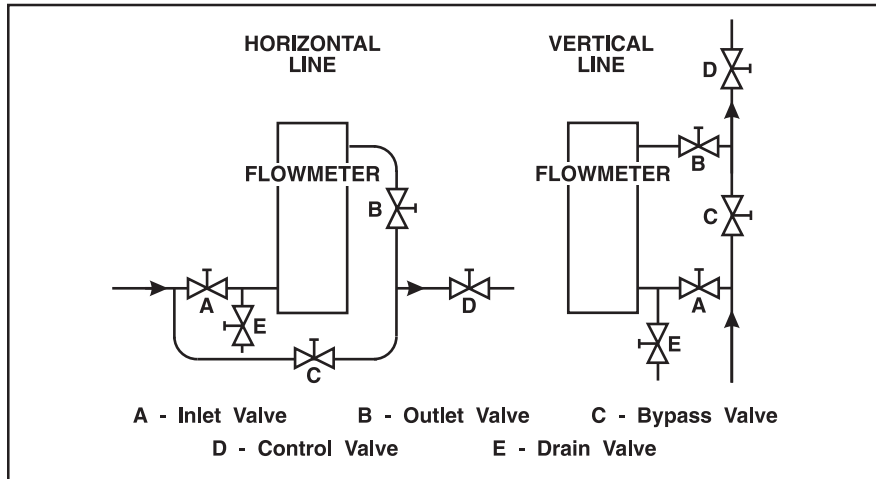

Figure 2-1 Typical Bypass Installation
- Installation of a bypass piping arrangement is recommended, Figure 2-1. Bypass piping permits the meter to be isolated from the flow line for servicing and cleaning.